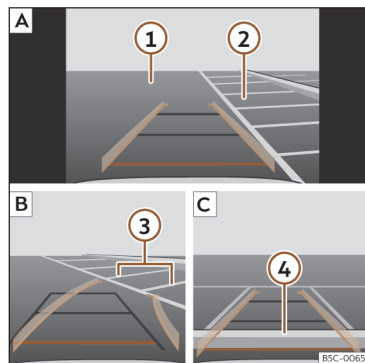

Fig. 197 Display on the Infotainment system screen.: parking with reverse assist.
Key to the **Fig. 197**:
- Place the vehicle in front of the parking space >>> **Fig. 197** ② **A**.
- Reverse while turning the steering wheel so that the yellow lines enter the parking space. The green and yellow lines must match the side boundary lines ③ **B**.
- Stop the vehicle when the red line has reached the rear boundary ④ **C**.